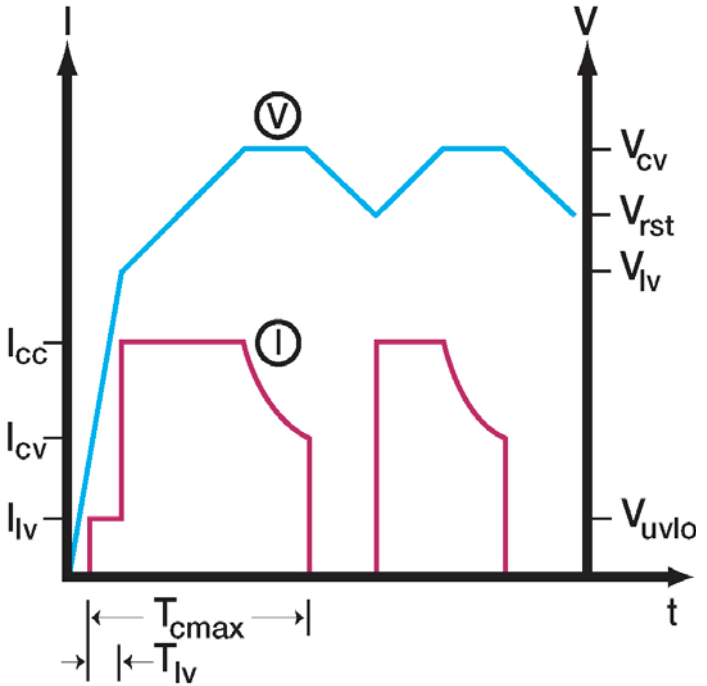
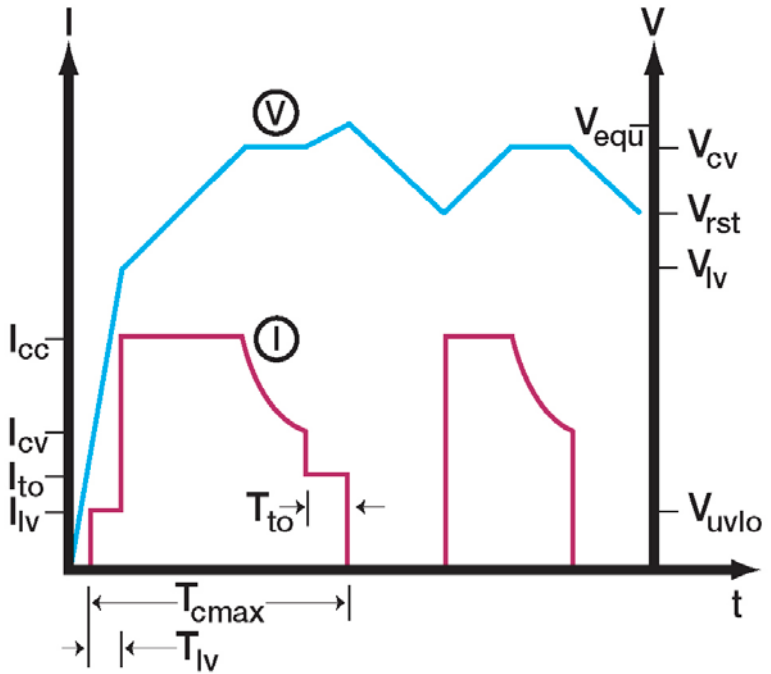
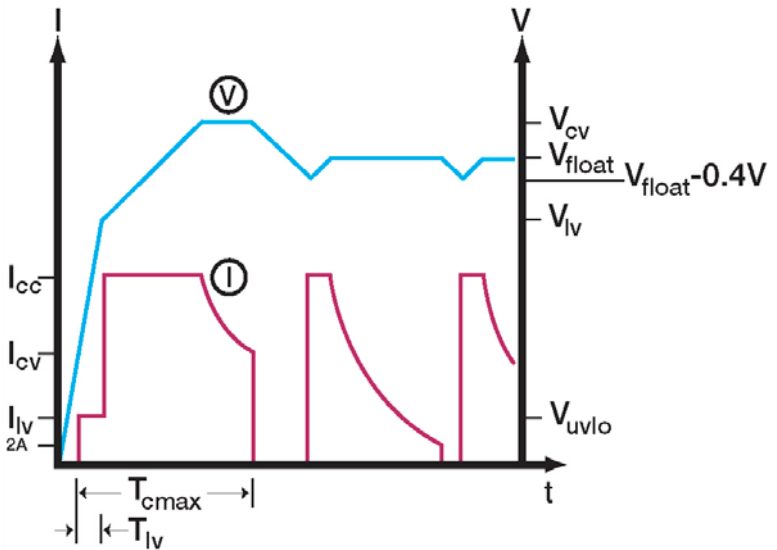

Figure 1. Charge profile for End of Charge Mode
Figure 2. Charge profile for Equalize Mode
Figure 3. Charge profile for Float Mode
The Model 1620 charger provides three different charge profiles: IV_a (Off Mode, see Figure 1), I₁VI_{2a} (Equalize Mode, see Figure 2) and IV₁V₂ (Float Mode, see Figure 3).
Figure 1 defines the charge profile for the End of Charge Mode. As long as the battery voltage (V) is above Undervoltage Lockout Level (V_{uvlo}), charging will start after short delay of about 6 seconds. For battery voltage between V_{uvlo} and V_{lv} , charge current will be limited to lower value (I_{lv}) in order to prevent gassing damage to the batteries. Good batteries will quickly increase voltage above V_{lv} and the 1620 will increase current to Constant Current value (I_{cc}).
Figure 2 defines the charge profile for the Equalize Mode. After going through bulk charge and Constant Voltage modes, the charger will reduce its output current to Top-Off Current (I_{to}) until one of the two possible outcomes occurs:
Figure 3 defines the charge profile for the Float Mode. In this mode of operation, batteries are maintained at full charge. In addition to maintaining full charge, the charger can support a load current – as long as the combined load current and battery charging requirements do not exceed the output current defined in the Constant Current setpoint (I_{cc} , default value of 20A in the Basic Mode).